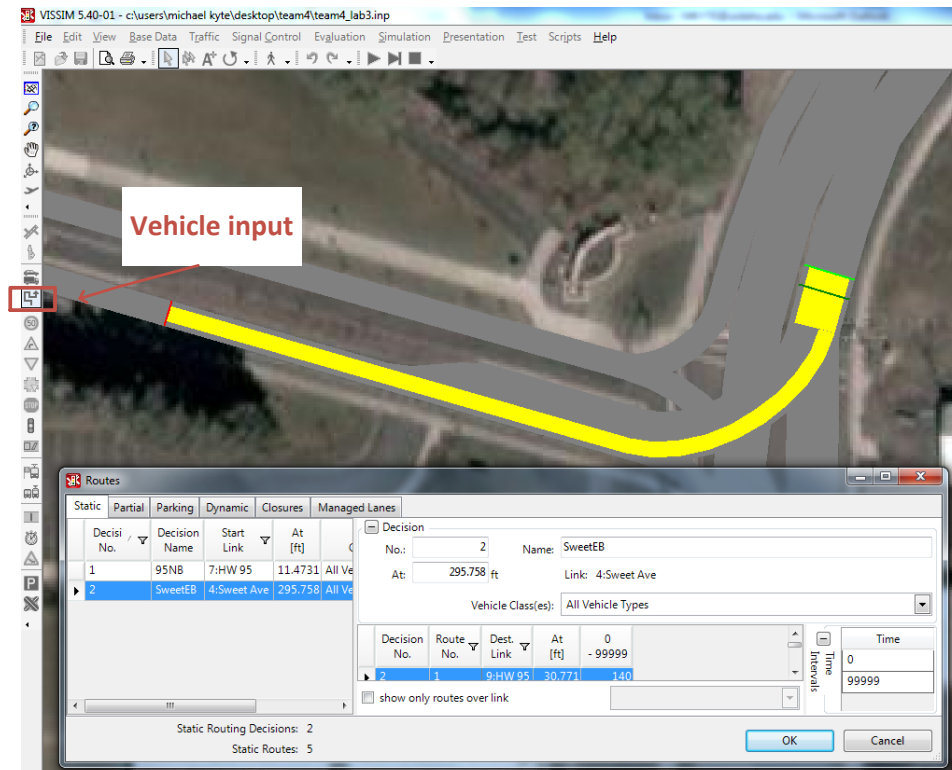

Figure 16. Vehicle volume changes
- Select the “routes” icon on the toolbar on the left side of the VISSIM screen. Figure 16 shows the routes icon boxed with a red border.